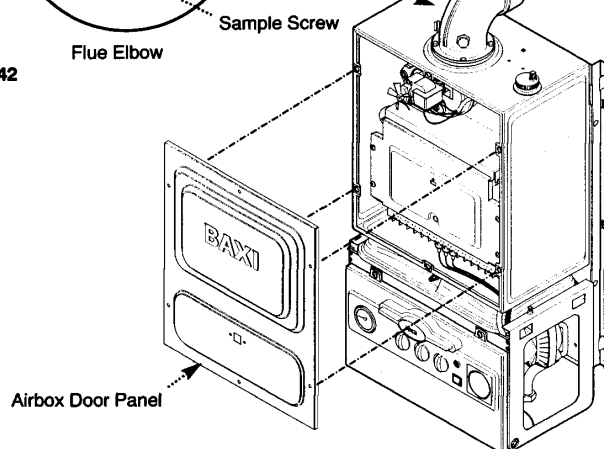

Fig. 43
7. Release the six ¼ turn screws securing the airbox door panel and remove the door (Fig. 43).